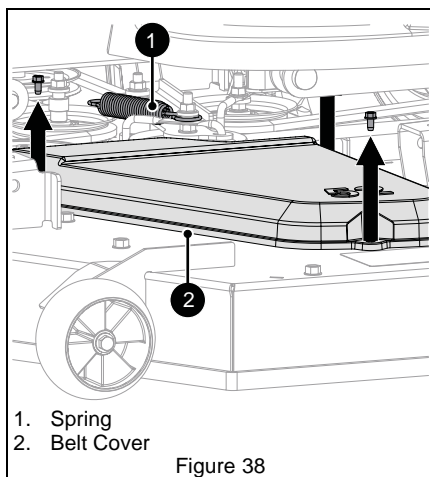

Figure 38
See Figure 38.
11. Reinstall belt cover and secure with three self-tapping screws removed earlier. See Figure 38.